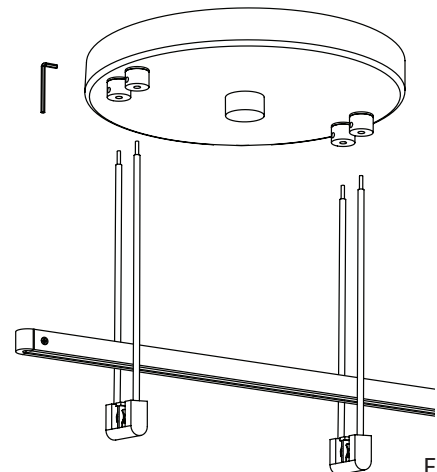

Fig. 2
1. Install the Double Cord Power Feed Hanger onto the Power Bar the same way as the Parallel Power Bar Hanger (page 34): press down firmly on the top of the Power Bar, while pressing up on the bottom of the Hanger, until the Power Bar clicks into place. (Fig. 2)